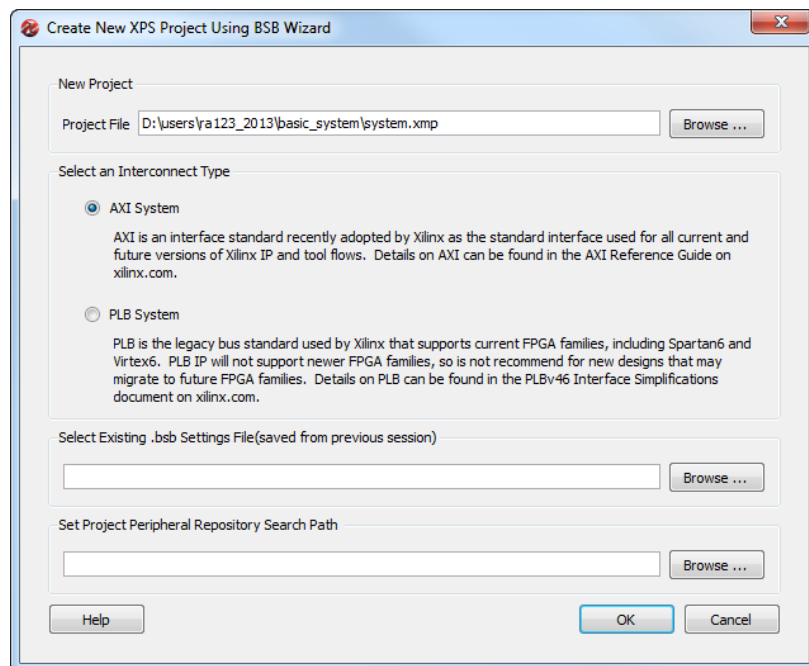

Figure 4: BSP Wizard, Interconnection Type Selection
2. You will be asked to specify which folder to place the project. Click **Browse** and create a new folder for the project (Figure 4). Click **OK**.